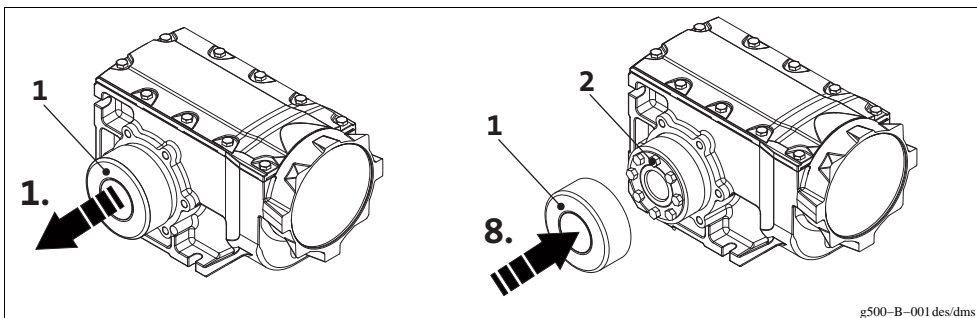

Fig. 13 Cover of the clamping screws
8. Push protective cap (1, Fig. 13) onto the shrink disc.